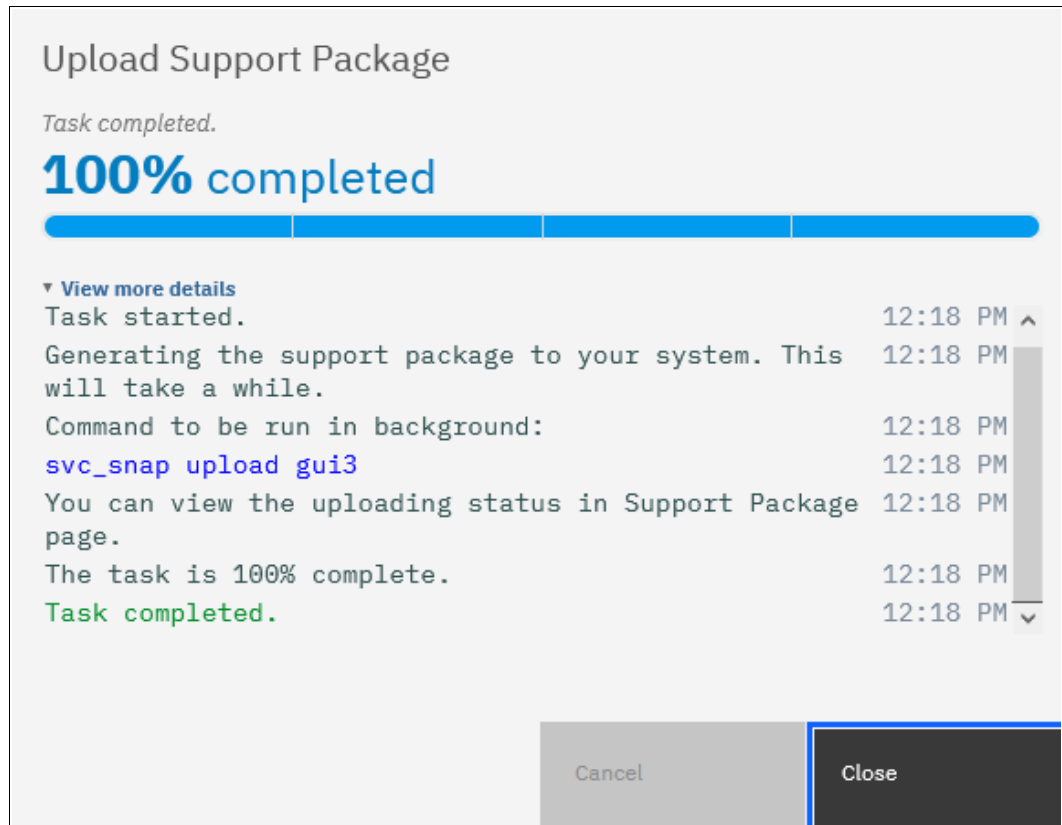

Figure 13-65 Task detail window
- The procedure to generate the snap on the system, including the most recent statesave from each node canister, starts. This process might take a few minutes (see Figure 13-65).